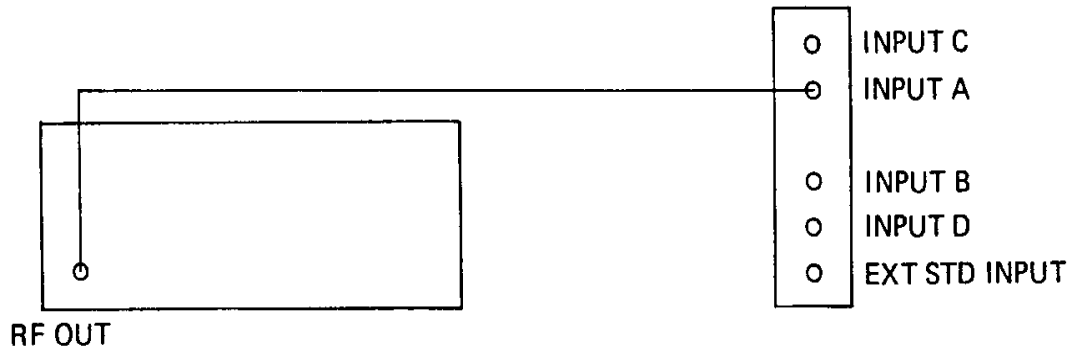

Figure 4-13, Input A X10 Attenuator Check Configuration
- 4.2.2.2 Connect the counter to the signal generator as shown in **Figure 4-13**.